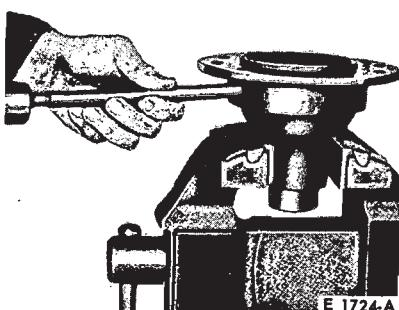

FIG. 19—Driving Out Differential Pinion Shaft
7. Drive out the pinion shaft with a brass drift (Fig. 19).